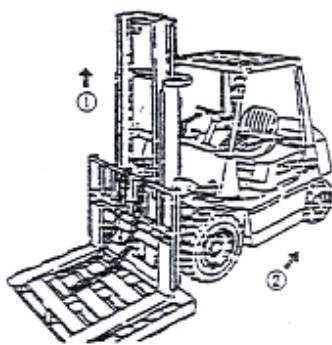

Figure 2-53
- (1) Place a tray on the forklift and park it on level ground.
- (2) Lower the fork and tray down to the ground.
- (3) Remove the upper end joint of the chain and remove the chain from the chain wheel.
- (4) Lift the inner main frame (① in Figure 2-53)
- (5) Reverse the forklift after confirming that the fork frame has been separated from the outer main frame (② in Figure 2-53).
- (6) Replace the main roller